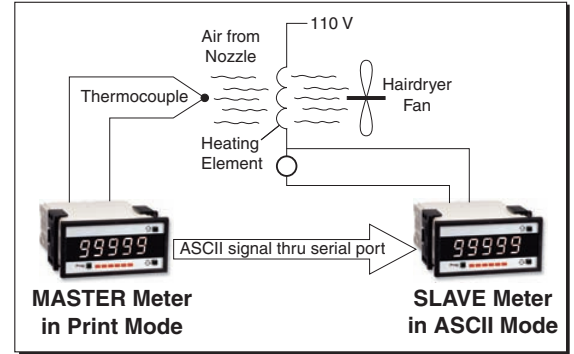

Figure 15 – Combining Two Isolated Inputs
- Combining two isolated inputs for further processing and display (see Figure 15).
For example, a Tiger 320 Series meter is used to measure the current in the heating element of a hair dryer. A second Tiger meter is used to measure the temperature of the air in the nozzle when the fan and heater are operating. This is to see if the air in the nozzle responds in a predictable manner during the different stages of the hair dryer operation. In practice the tip of the thermocouple sometimes shorts on the heating element. This is why the input signal from each sensor must be isolated (see Figure 15).